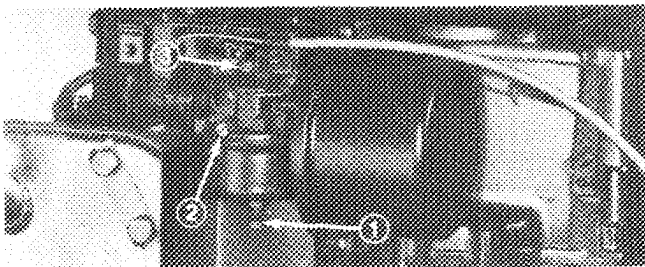

Figure 26
1. Power Adjusting Screw (Fig. 26) — Close screw by gently rotating it clockwise.
2. Rotate — open — the power adjusting screw 1 turn counterclockwise (Fig. 26).
3. Idle Mixture Screw (Fig. 26) — Close screw by gently rotating it clockwise. Rotate — open — idle mixture screw $1\frac{1}{2}$ turns counterclockwise.
5. Rotate power adjusting screw (Fig. 26) clockwise, $1/8$ turn at a time, until engine starts to lose speed — lean. Then rotate screw counterclockwise, $1/8$ turn at a time, until engine first runs rough — rich. Wait several seconds so engine can adjust to each $1/8$ turn setting. Next, rotate power adjusting screw clockwise, back to the midpoint between the rich and lean setting so engine runs smoothly.
6. Move throttle backward to IDLE. Next, rotate idle speed screw (Fig. 26) until engine idles fast — (1750 rpm).
7. Rotate idle mixture screw (Fig. 26) clockwise, $1/8$ turn at a time, until engine starts to lose speed — lean. Then rotate screw counterclockwise, $1/8$ turn at a time, until engine first runs rough — rich. Wait several seconds so engine can adjust to each $1/8$ turn setting. Next, rotate idle mixture screw clockwise, back to the midpoint between rich and lean setting.
9. Rotate speed screw (Fig. 26) until engine idles fast (1750 rpm).